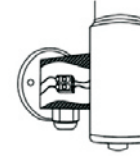

Рис. 4
2. Put the connecting plinth in the protecting cover, fasten the two parts of protective cover by the small screws and place it inside the connection box (see figure 4).